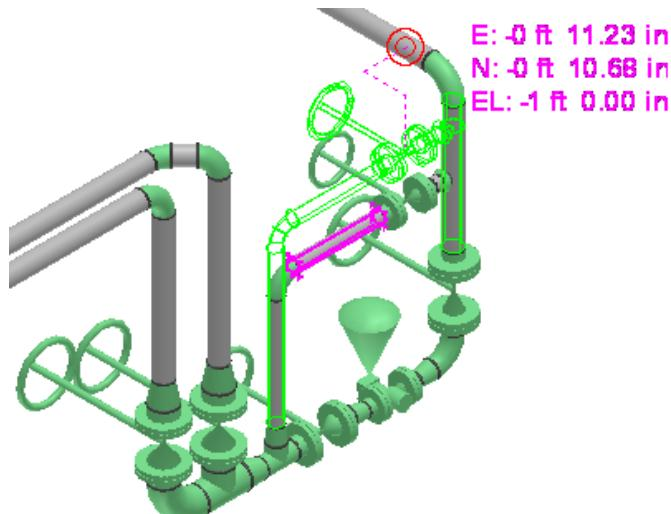

Figure 15.6: Moved Pipe Feature
8. Key in **-1 ft** for **El** on the **PinPoint** ribbon to move and define the position of the pipe straight feature **1 ft** from the centerline of the pipe **400-P**. Before you accept the placement position, the pipe feature after moving resembles Figure 15.6.